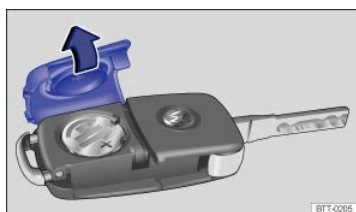

Fig. 21 Remote control vehicle key: Open battery compartment cover.
The battery is on the back of the remote control vehicle key under a cover ⇒ Fig. 21.
- Remove the cover on the back of the remote control vehicle key ⇒ Fig. 21 in the direction of the arrow ⇒ .
- Position the cover as shown ⇒ Fig. 21 and press it down (opposite to direction of the arrow) until you hear it click into place.